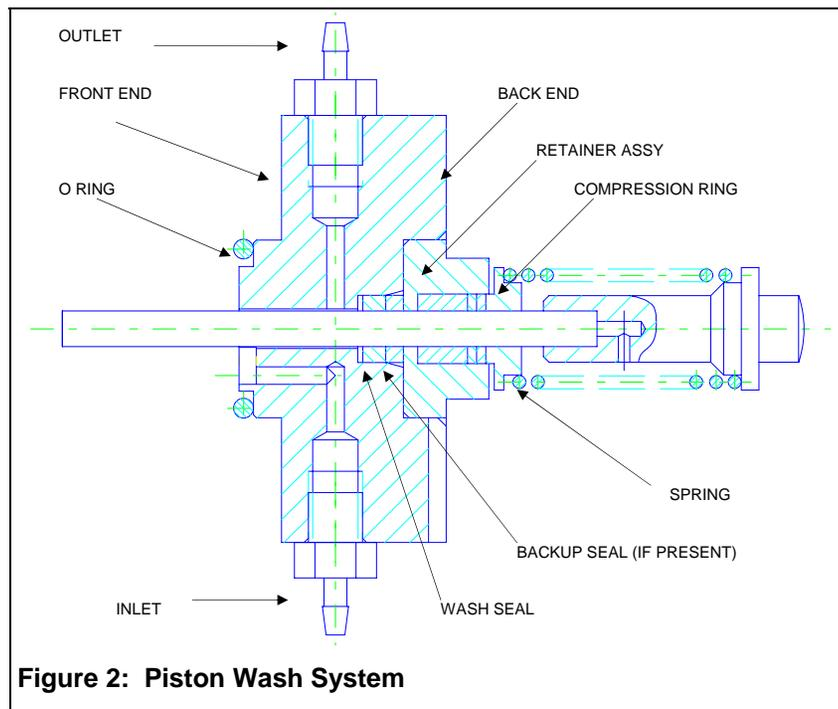

Figure 2: Piston Wash System
7. Place the front end of the wash cylinder into the liquid end assembly. See Figure 2.